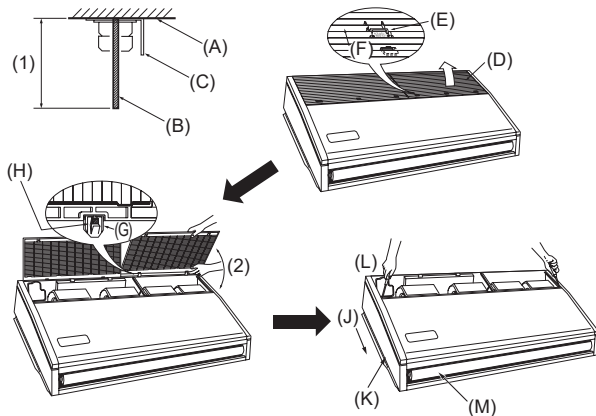

Fig. 3-4
- (D) Use inserts of 100 kg to 150 kg each.
- (E) Use suspension bolts of W3/8 or M10 in size.
3.2.4. Indoor unit preparation (Fig. 3-4)